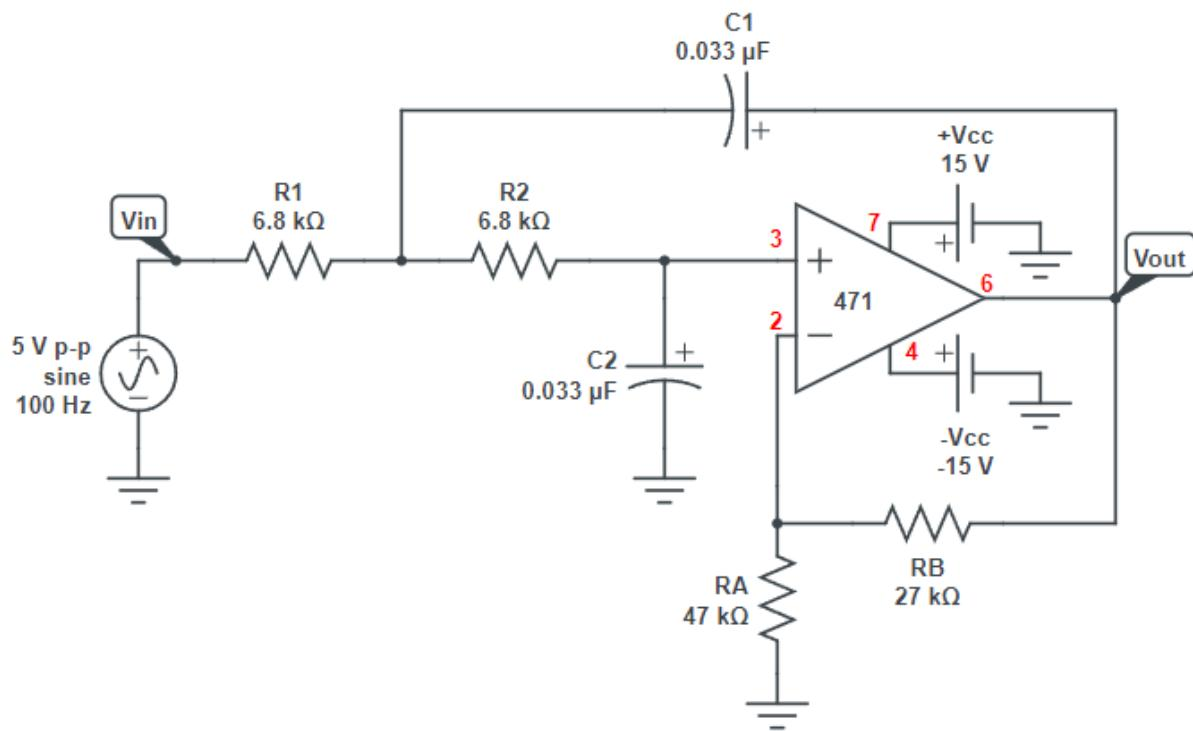

FIGURE 15-1: Schematic Diagram of Circuit
Please simulate the circuit shown in Figure 15-1 in PSpice. Include both the input and output waveforms in the per-lab report. Calculate the cutoff frequency and calculate the expected values of Table 15-1.
1. Wire the circuit depicted in Figure 15-1.